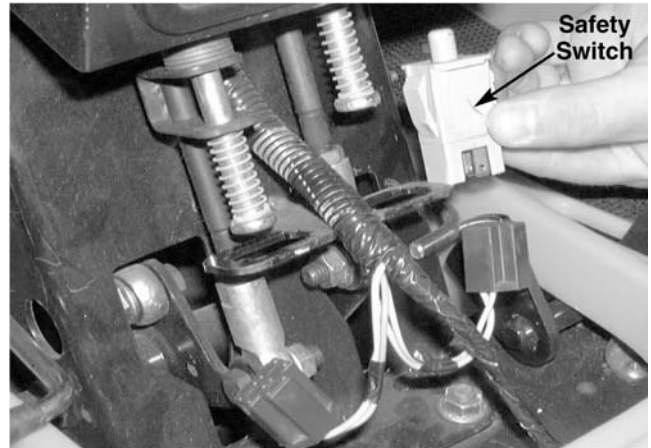

Figure 10-4.
- Remove both safety switches from the irrelative holders by squeezing the retaining clips in and pushing upward until they are clear of the securing brackets. See Figure 10-4.